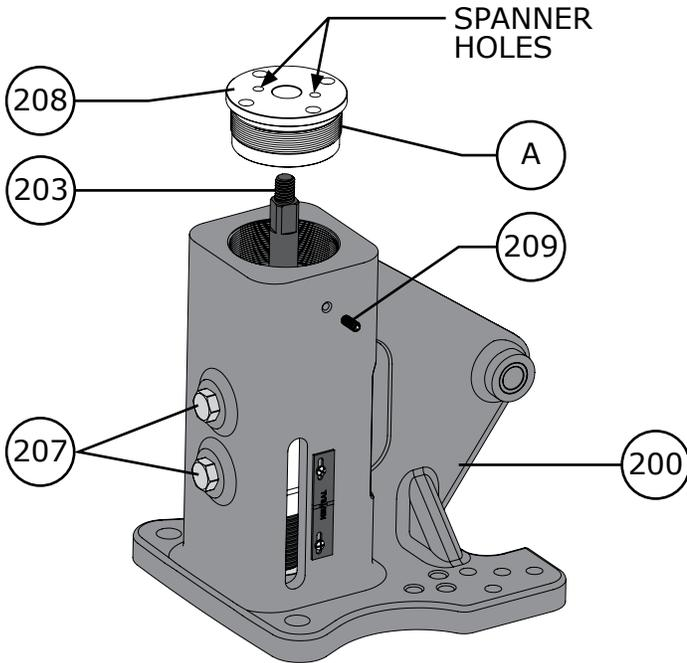

Figure 65 Bearing Retainer Installation
- 9 Lubricate the threads of the bearing retainer (Key 208) with Permatex® Nickel Anti-Seize (Key A) and thread it into the top of the handwheel body (Key 200). It may be necessary to use a spanner wrench to tighten the bearing retainer completely into the handwheel body. Once the bearing retainer is completely threaded in place, loosen the bearing retainer ¼ turn. Refer to Figure 65.